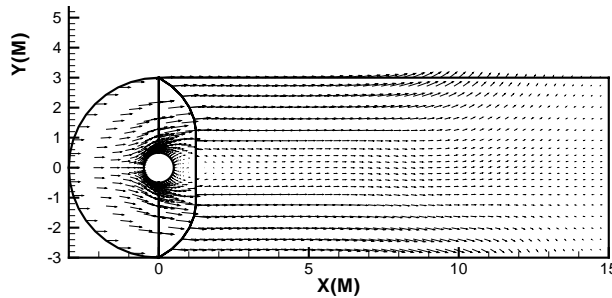
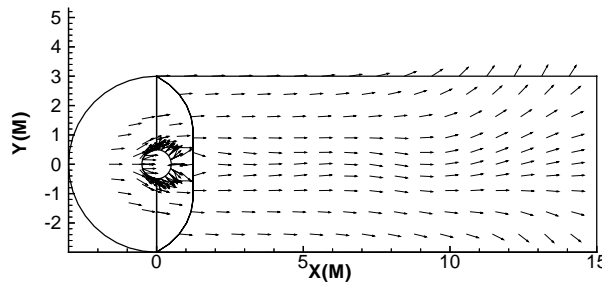

Figure 12-2. A vector plot of the cylinder data.
Figure 12-8. A vector plot with Index Skip specified.
Once you have selected the Vector check box and have chosen your vector components your vector plot will appear as shown in Figure 12-2 for the cylinder data. If vectors are not visible, see 12.5, "Controlling Vector Length."
You can draw every vector or specify a skip factor that lets you plot only every n th vector (in I-, J-, or K- coordinates). Spacing the drawn vectors is useful in situations where you have an extensive vector field, and plotting all the vectors makes the general flow of the vector field difficult to discern. For example, Figure 12-8 shows the cylinder data with every other vector shown in the I direction and every third vector shown in the J direction. Compare this to the vector plot shown in Figure 12-2.
5. (Enter Skip only) Enter the desired values of I-Skip, J-Skip, and K-Skip. Figure 12-8 was created with the following settings: *I-Skip*=2, *J-Skip*=3, *K-Skip*=1..